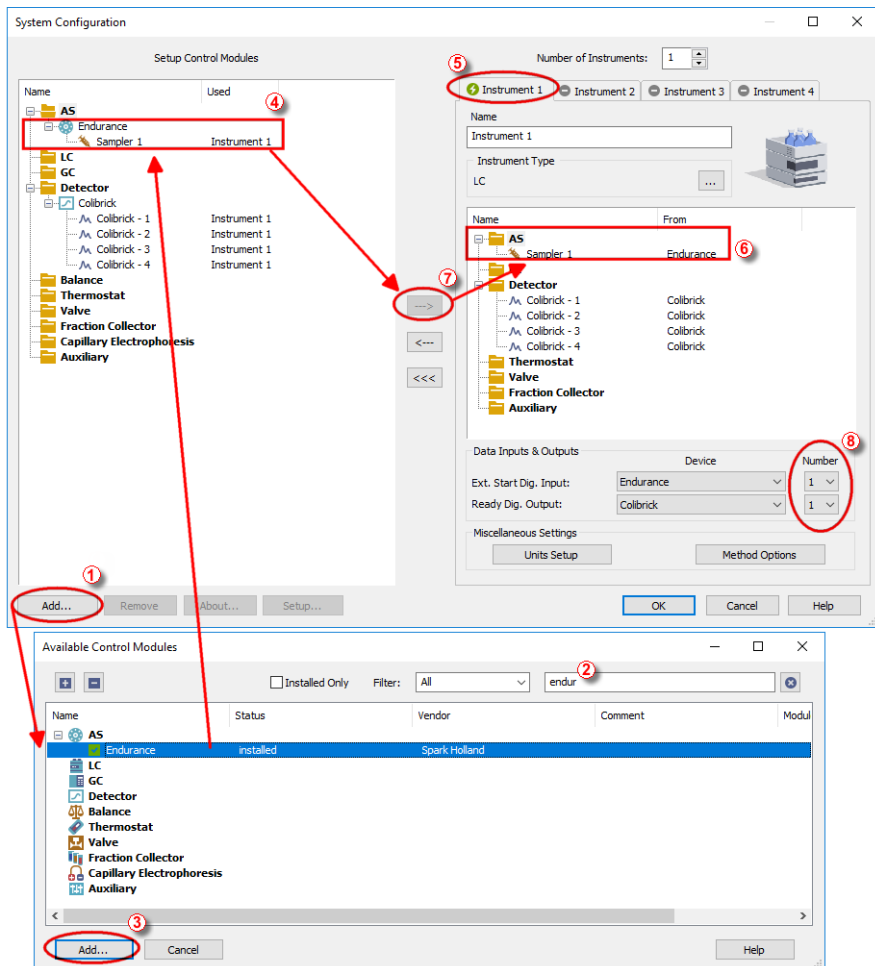

Fig 5: System Configuration
- Press the **Add** button ① (see **Fig 5** on pg 6.) to invoke the **Available Control Modules** dialog.
- You can specify the searching filter ② to simplify the finding of the driver.
- Select the **Endurance** sampler and press the *Add* ③ button.